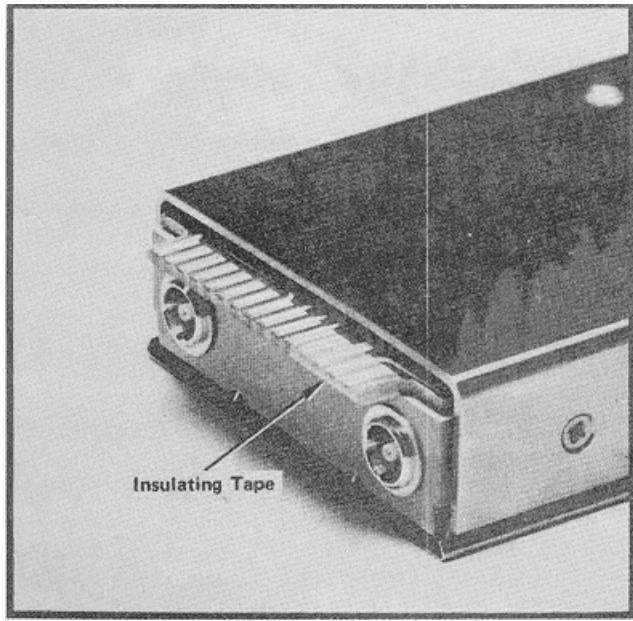

Fig. 4-4. Plug-in module connector partially Insulated so the HI Z calibrator level can be adjusted.
a. Remove the plug-in module and place insulating tape (e.g., Scotch tape) over pins A13-B13, A14-B14, A15-B15 of the interface connector (Fig. 4-4), then re-insert the plug-in module in its compartment.